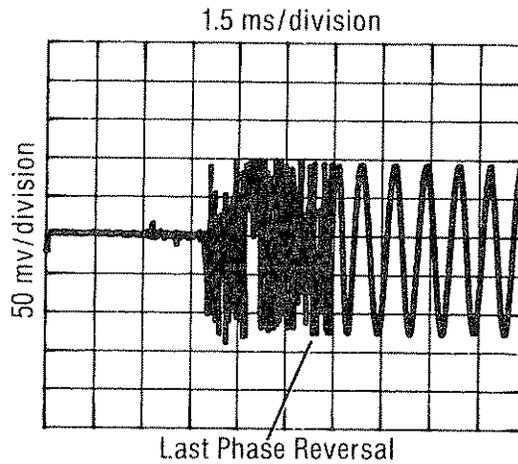

Figure 4-3. Frequency Switching Time Measurement Waveform
As the CW Generator output changes between the two programmed frequencies the IF signal will pass through zero. This will generate a phase reversal, as shown in Figure 4-3. The last phase change of the IF frequency is the point that the frequency of the unit under test is within the specified resolution.
5. Press the pause key on the controller to stop the program. Load and run the following program. The program will continue switching the CW Generator between 18 GHz and 2.1 GHz until the pause key is pressed. If necessary, adjust the oscilloscope triggering to obtain a display similar to that shown in Figure 4-3.
6. Measure the switching time by observing the signal on the oscilloscope display. The external trigger is the reference for determining switching speed. The switching time is measured from the display's left graticule to the last phase reversal (as the CW Generator passes the local oscillator frequency) before the IF signal settles into a steady frequency. Refer to Figure 4-3. Record the frequency switching time.